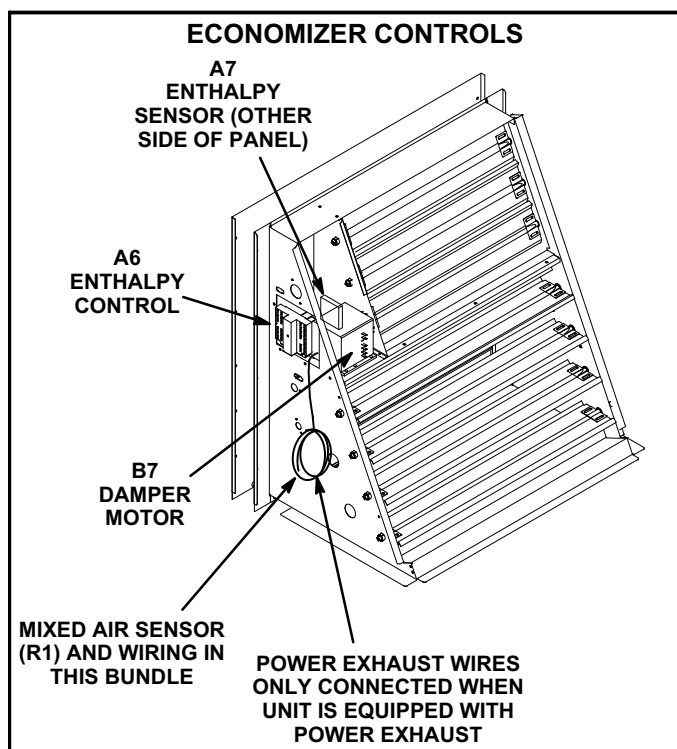

FIGURE 22
- The subcooling temperature should be as shown in figure 22. A subcooling temperature greater than this value indicates an overcharge. A subcooling temperature less than this value indicates an undercharge.
The A6 enthalpy control is located in the economizer access area. See figure 22. The A7 enthalpy sensor is located on the division panel between horizontal supply and return air sections.